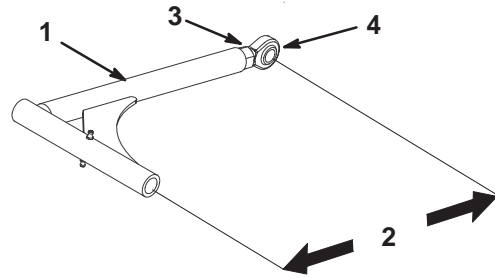

Figure 54
- To adjust the push arms, loosen the jam nut and rotate the ball joint counterclockwise, one turn at a time.(Fig. 54).
- Adjust each side the same amount. Each push arm should have a nominal length of 15-5/16 inch (389 mm) (Fig. 54).